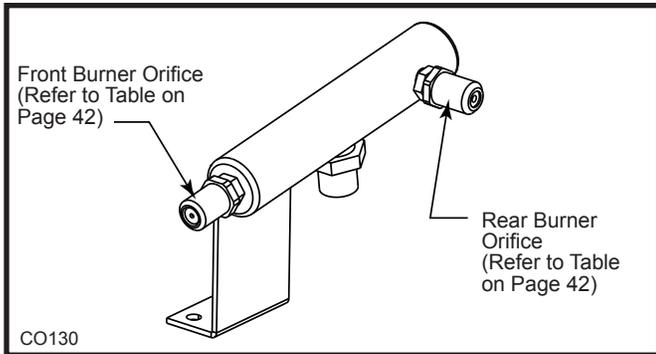

Fig. 67 Burner orifice replacement.
- Using a 1/2" open end wrench remove the orifices. (Fig. 67)
3. Using a 1/2" open end wrench remove the orifices. (Fig. 67)